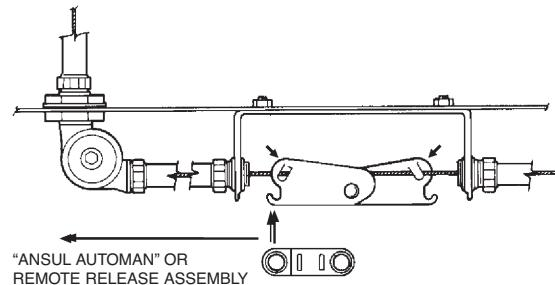

FIGURE 28
- 7. Install detector scissor assembly as shown in Figure 28. Note that the ANSUL AUTOMAN or remote release assembly is located on the left side of the detector bracket. **Slightly** crimp the two assembly “boot-hooks” over the cable with pliers so the cable is captured under each hook but the whole assembly can move from side to side. Center the assembly in the detector bracket.